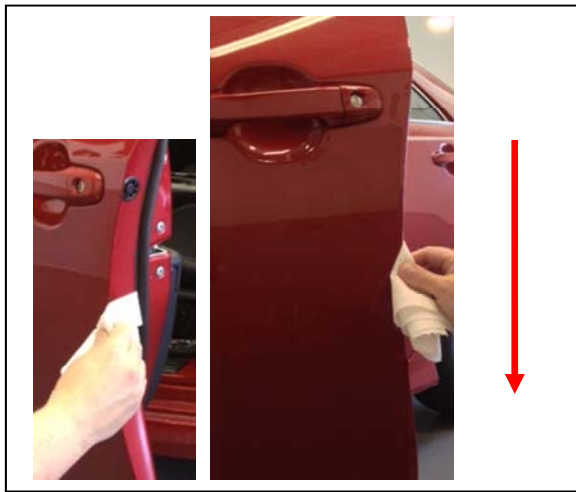

Fig. 2-2
- b. Using the second lint free cloth, thoroughly dry the area free of Simple Green (or VDC approved cleaner) previously applied. In some instances a rubber weather seal may be found – ensure to clean between the trailing edge and rubber seal (Fig. 2-2). Turn the cloth repeatedly to attain a dry surface.